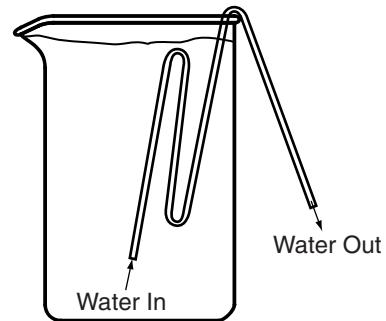

Figure 2
4. Obtain a tall-form beaker or other tall container that will allow the siphon to be completely submerged in water up to Bend 1. Bend 3 should rest on the lip of the container. See Figure 2.
1. Begin the siphoning process by submerging the Siphon Tube in the water-filled beaker up to Bend 1. See Figure 2.